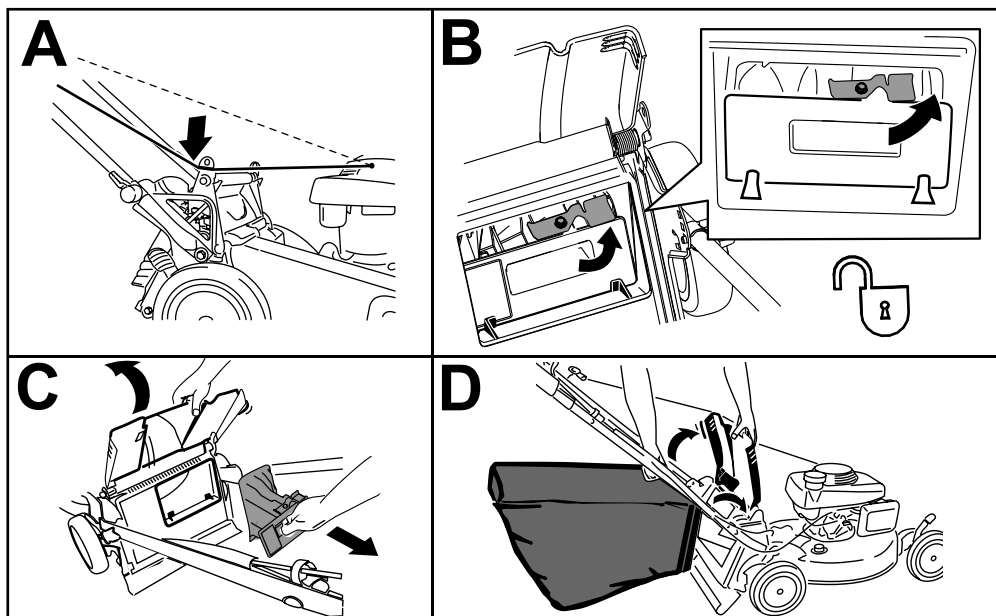

Figure 22
1. Route the starter rope around the lower-rope guide (A of Figure 22).
2. Raise and hold up the rear deflector and pull out the rear plug (B of Figure 22).
3. Pull out the rear plug (C of Figure 22).
4. Hang the upper front edge of the bag from the grass-bag pins on the notches of the handle brackets (D of Figure 22).